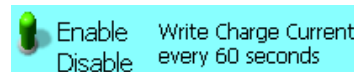
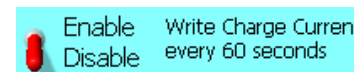

FIGURE 6. ENABLE WRITING CHARGE CURRENT REGISTER EVERY 60 SECONDS
FIGURE 7. DISABLE WRITING CHARGE CURRENT REGISTER EVERY 60 SECONDS
The ISL88731(C) will shut down unless it receives Charge Voltage or Charge Current commands every 175s. This is a safety feature that prevents overcharging batteries if bus master has stopped functioning. The control software includes the function to write the Charge Current register every 60 seconds, which can be enabled or disabled as shown in Figure 6 and Figure 7.